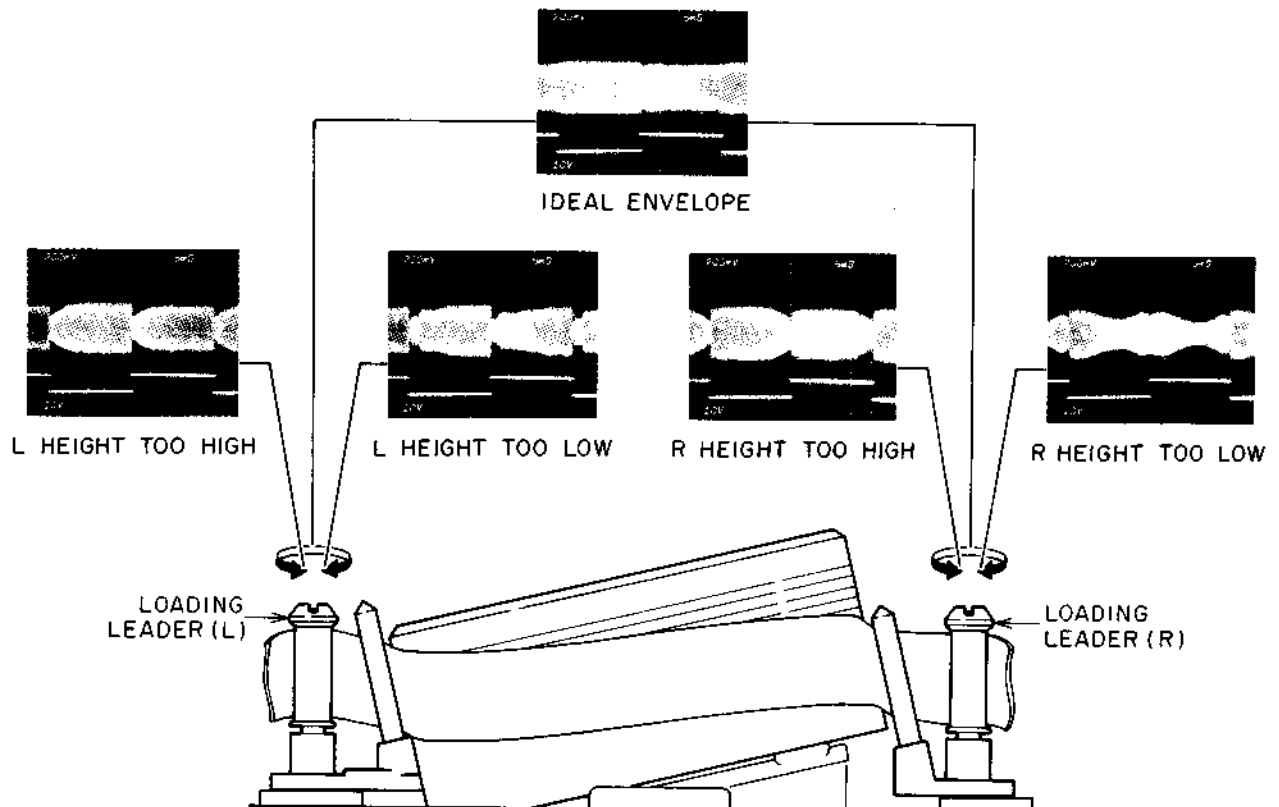

Fig. 4-5
- 3) Connect an Oscilloscope to RF ENVELOPE test terminal TP1 on the MAIN (VIDEO) PCB. Turn the LOADING LEADER height adjustment screw head to obtain the flat envelope as Fig. 4-5 ideal envelope.
- 2) Slightly turn the LOADING LEADER HEIGHT ADJUSTMENT SCREW HEAD (L) (R) to obtain the IDEAL ENVELOPE as shown in Fig. 4-5.